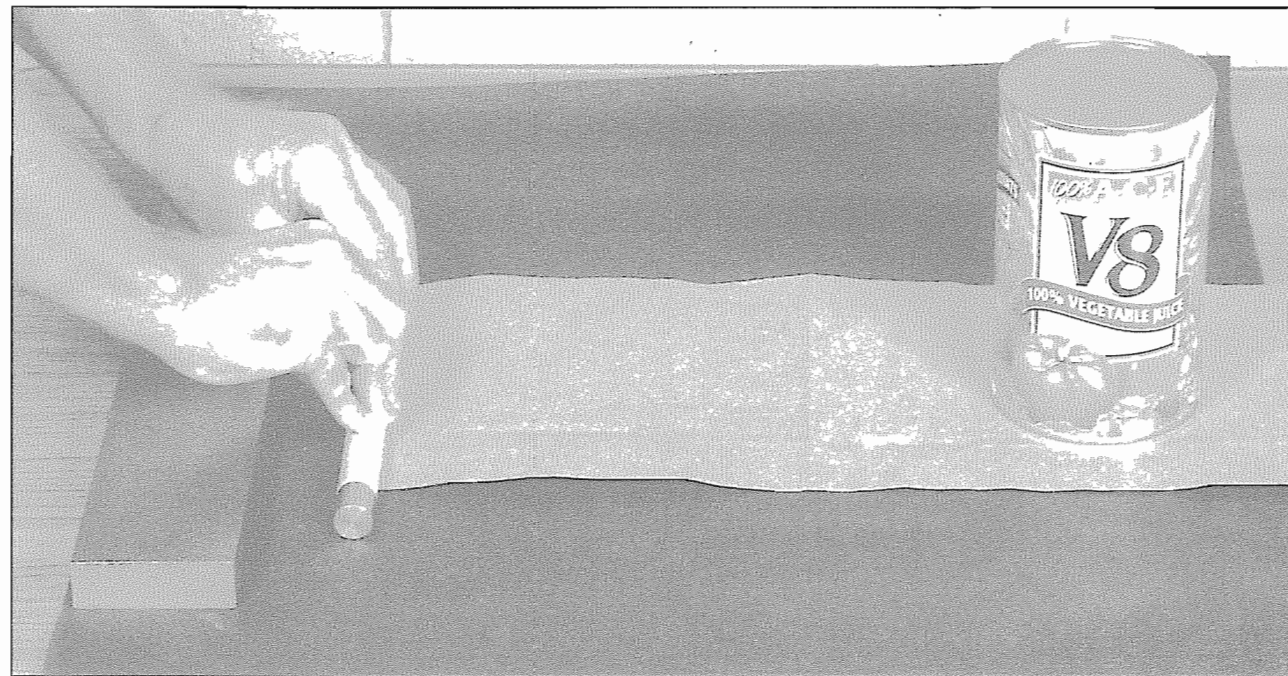
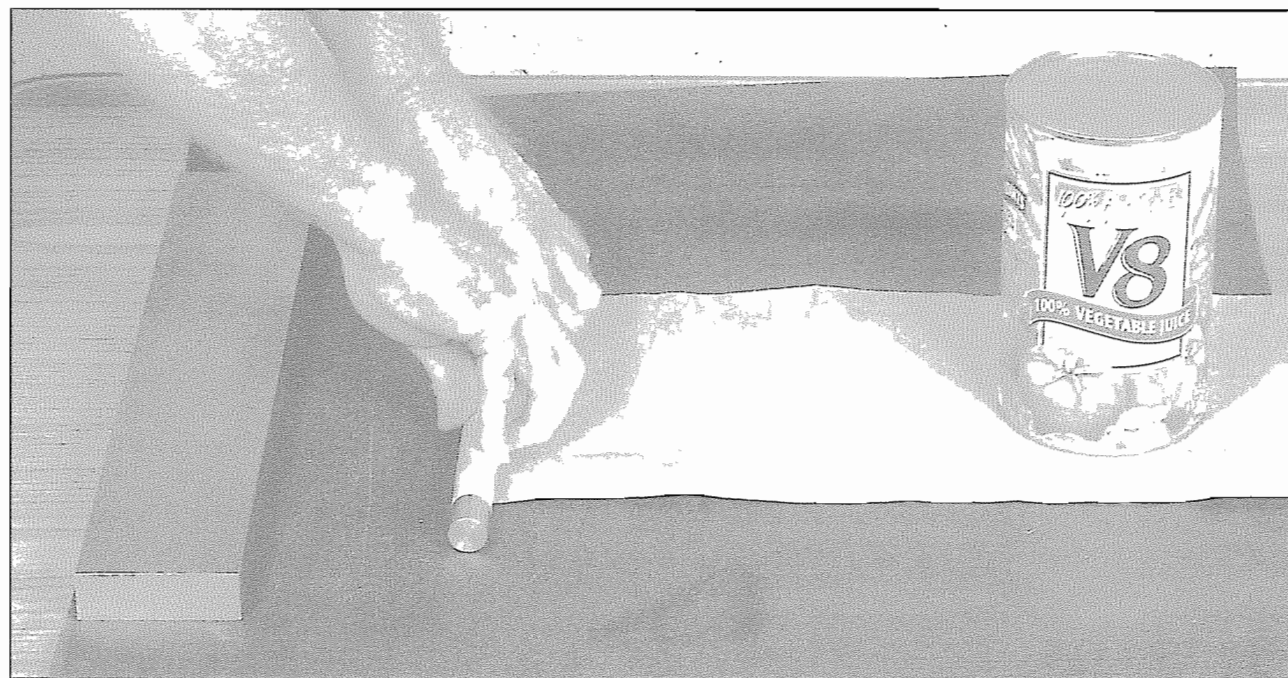

Figure 8-9. The bar is rolled forward onto the paper.
Figure 8-10. The beveled end of the paper is rolled over the top of the bar, and tucked under the bar as tightly as possible.
6. Pressing firmly down on the bar so that it doesn't wiggle, roll it forward onto the paper (**Figure 8-9**). Without wiggling the bar, lift up the beveled end of the paper. Roll it over the top of the bar, and tuck it under the bar as tightly as possible (**Figure 8-10**). You will find that long fingernails and the beveled corners of the paper are helpful when doing this.